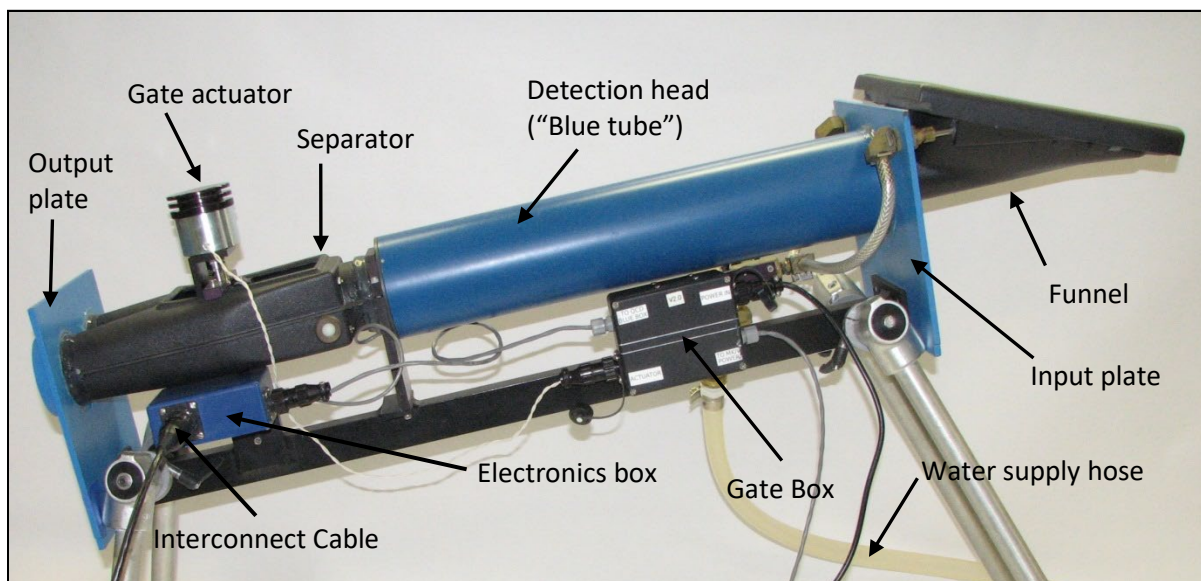
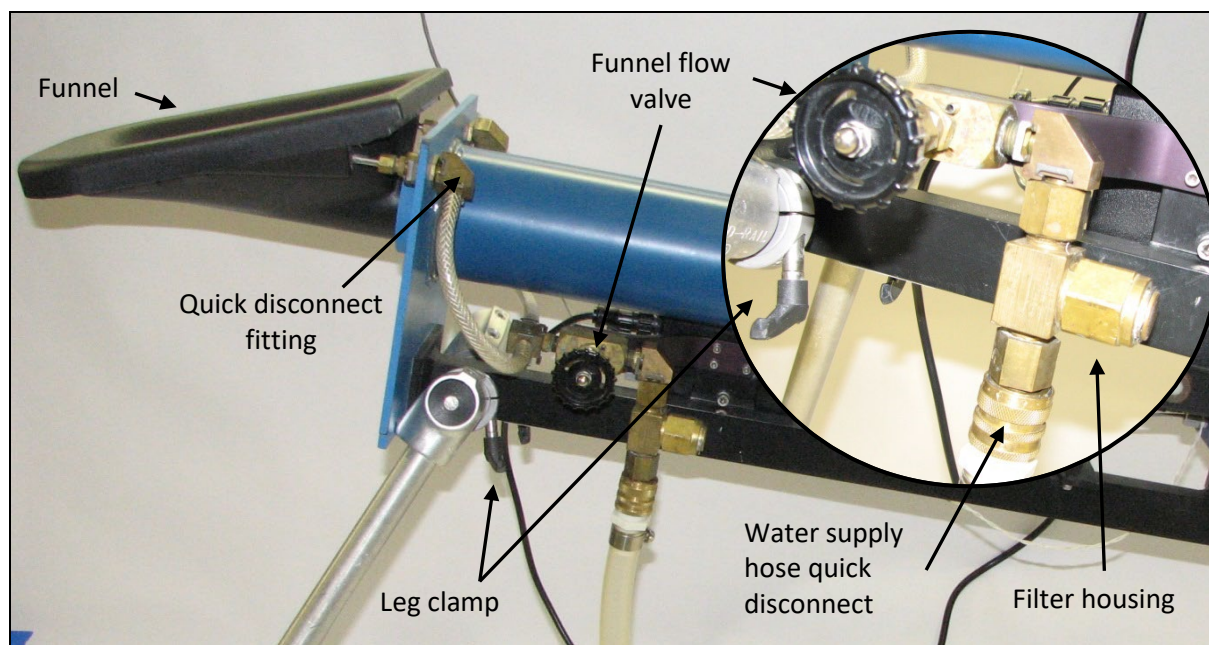
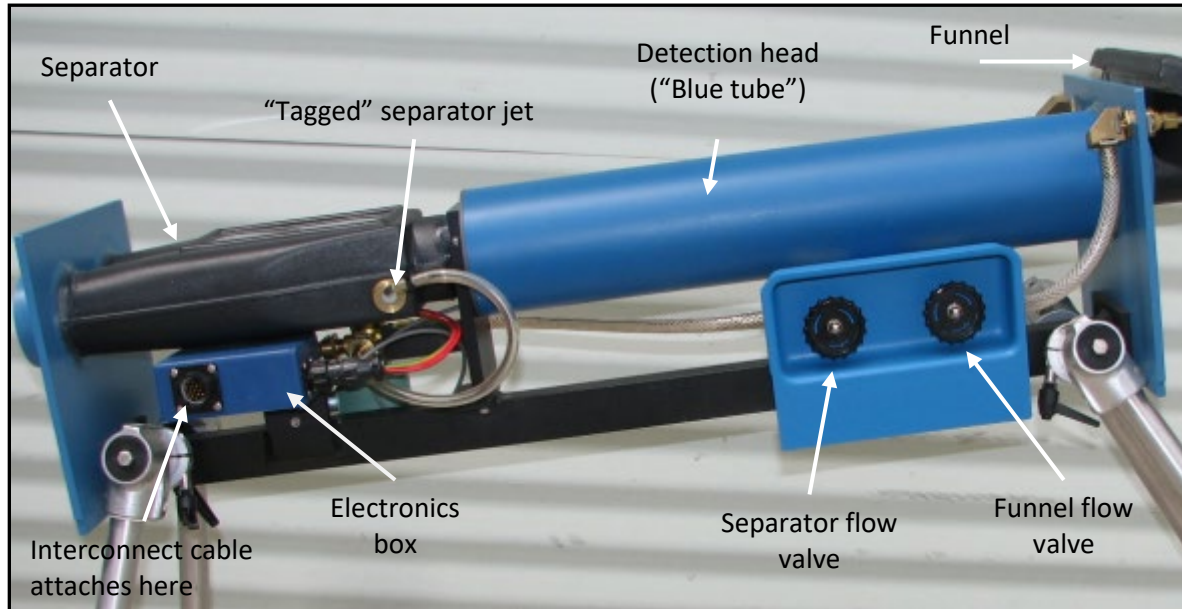
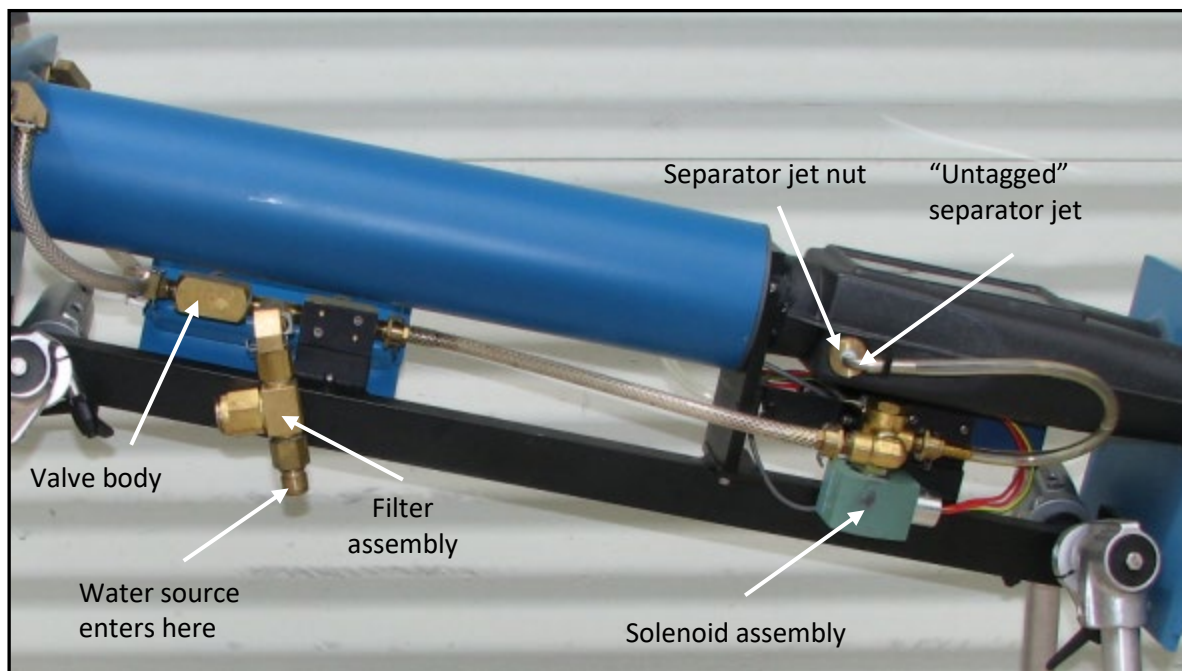

Figure 13: Quality Control Device (mechanical gate version, electronics box side).
Figure 14: Quality Control Device (mechanical gate version, filter side).
Figure 20: Quality Control Device (water jet version, valve side).
Figure 21: Quality Control Device (water jet version, solenoid side).
There are two versions of QCD's. The "Mechanical version" uses a fin with an actuator to divert tagged fish (Figure 13 and Figure 14). The "Water jet" version uses water jets with a solenoid to divert tagged fish in the separator (Figure 20 and Figure 21).
2. Loosen the leg clamps (Figure 14) by turning the small black lever-style handle at the rotating joint between the legs and the QCD frame. Space is tight so the handles cannot always make a full turn. To help in this situation the handles have built-in clutches. Pull the handle out for free turning, allow the spring to pull it back in and it will operate the clamp.
3. Unfold the short legs and position them so they are about 2 mm (1/16 in) from the output plate (Figure 14) of the QCD. Unfold the long legs and position them so they are approximately 2 mm (1/16 in) from the input plate of the QCD. Tighten the leg clamps.
Find the water supply hose quick disconnect. Screw the threaded end of the connector onto a standard garden hose or other water supply. The other end has a sliding collar which connects to the QCD Filter Assembly (Figure 14 and Figure 46, page 65). The water supply should provide a flow of about 2 gal/minute (7.5 L/min) at 40 psi (3 kg/cm).
Plug the actuator into the QCD's gate box (Figure 13, page 34). Plug the power supply to the Gate Box (**NOTE: it must be a 24VDC power supply**). Plug the gate box to the QCD electronics box and the MKIV Tag Injector.
Turn on the water supply to the QCD. Adjust the water flow from the funnel using the funnel flow valve (Figure 20). The funnel water flow should be sufficient to keep the fish moving through the QCD, but not so great that the separator jets are ineffective.
Adjust the water flow to the separator jets using the separator flow valve (Figure 20). The flow should be sufficient to move the fish to the proper side of the separator, but not so great that the fish is subjected to excessive forces. Since the water will always be diverted to one jet or the other, the flow to the two separator jets should be equal.